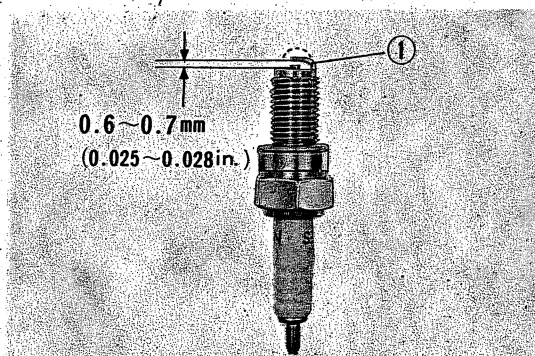

Fig. 11 ① Electrode
- 3) Check the gap between the electrodes with a thickness gauge and if necessary, adjust the ground electrode by bending. The standard clearance is **0.6-0.7 mm (0.025-0.028 in.)**. (Fig. 11)